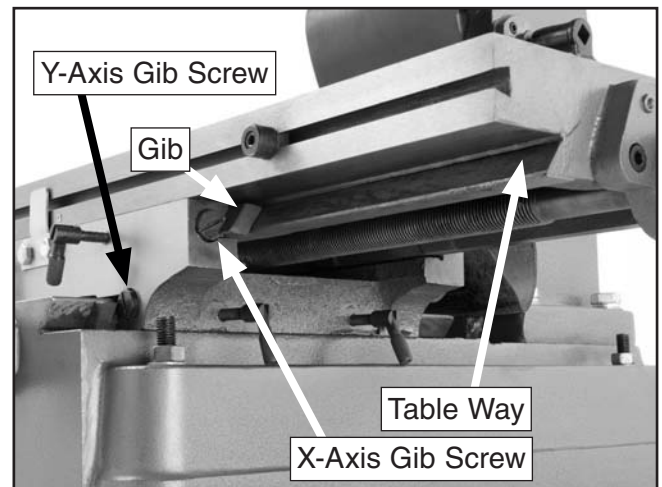

Figure 47. Table gib adjustment.
3. Using mineral spirits and a clean rag, clean and relubricate the table ways, gib, and leadscrew (**Figure 47**).
4. Using a #3 flat tip screwdriver, loosen or tighten the left-hand and right-hand gib screws (**Figure 47**) in an alternating manner to adjust the table gib.